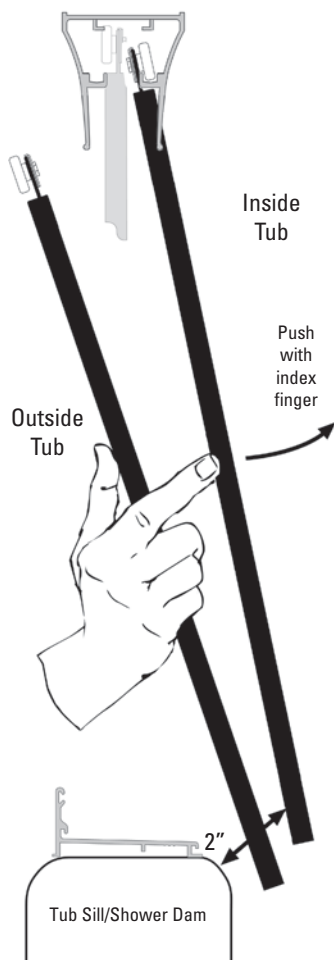

Figure 7
Before you begin, refer to Figure 7 to determine the correct orientation of hardware for your own installation. The Inside Door Panel (#6), with back-to-back Barrel Knob with Recessed Finger Pull (#8) will slide to the wall nearest the shower head. The Outside Door Panel (#5), with Tubular Towel Bar and Barrel Knob with Recessed Finger Pulls (#8) will slide to the opposite wall.
- L. Finally, gently slide the Inside Door Panel (#6) towards the wall with the shower head and the Outside Door Panel (#5) to the other wall to ensure that they clear one another. Double check that the overlap of the two (2) Door Panels (#5 and #6) is correct, as shown in Figure 7.